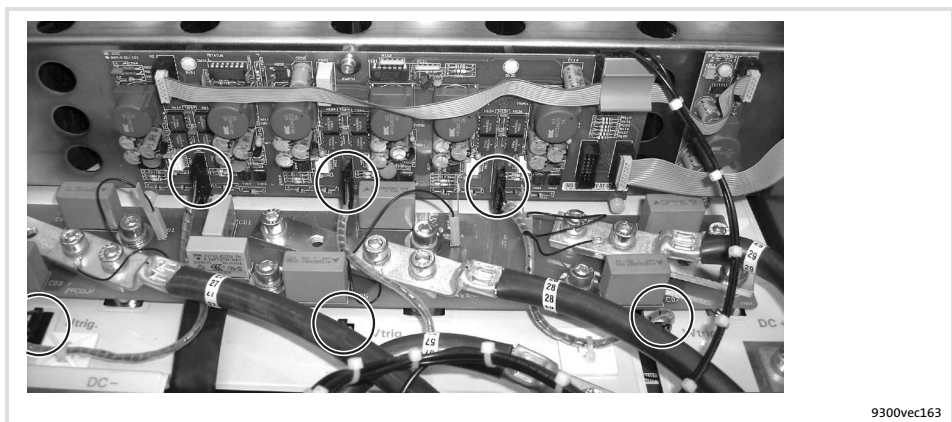

Fig. 5.5-5 Control cables in the master and slave
- Check all plugs selected in Fig. 5.5-5 for damage and correct fit.